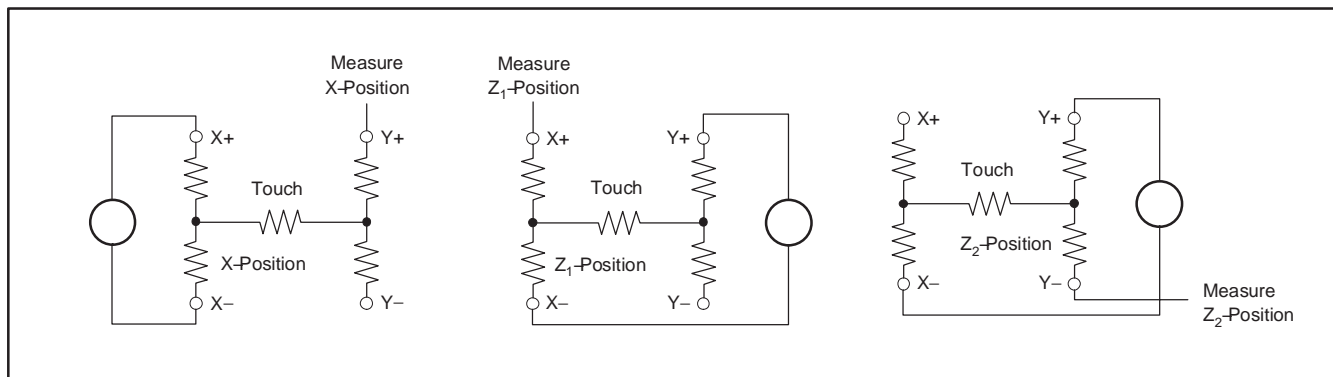

Figure 8. Pressure Measurement Block Diagrams
Measuring touch pressure can also be done with the TSC2046. To determine pen or finger touch, the pressure of the touch needs to be determined. Generally, it is not necessary to have very high performance for this test; therefore, the 8-bit resolution mode is recommended (however, calculations will be shown here in the 12-bit resolution mode). There are several different ways of performing this measurement. The TSC2046 supports two methods. The first method requires knowing the X-plate resistance, measurement of the X-Position, and two additional cross panel measurements ( $Z_1$  and  $Z_2$ ) of the touch screen, as shown in Figure 8. Using Equation (3) calculates the touch resistance: